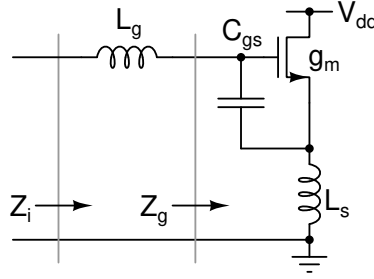

Figure 1.4: Problem 1.4.
- 1.4. Determine $Z_g(j\omega)$ in the circuit in Fig. 1.4. Determine L_g such that $Z_i(j\omega_o)$ has zero imaginary part. What is $Z_i(j\omega_o)$ in that case?